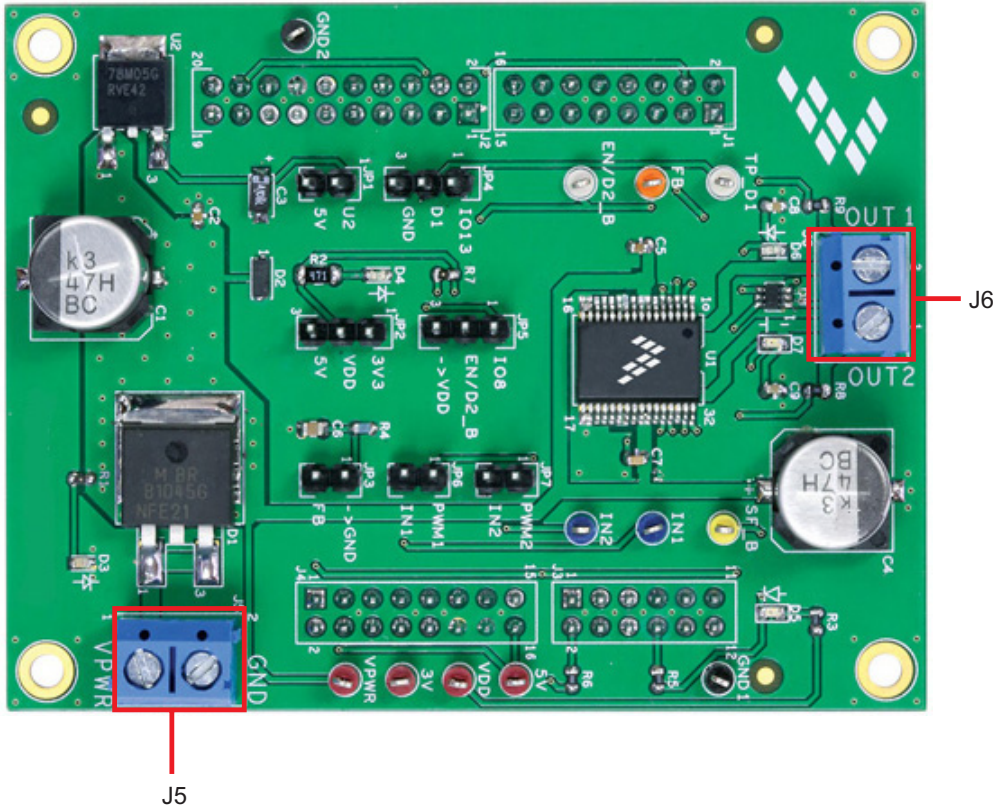

Figure 10. Screw Terminal Connectors
The board has following screw terminal connections to connect the power supply and the load. Figure 10 shows the location of the screw terminal connectors.
2. With the power switched off, attach the DC power supply to the VPWR and GND screw connector terminals on the evaluation board (J5 in Figure 10).
3. Attach one set of coils of the brushed motor to the OUT 1 and OUT 2 screw connector terminals on the evaluation board (J6 in Figure 10).